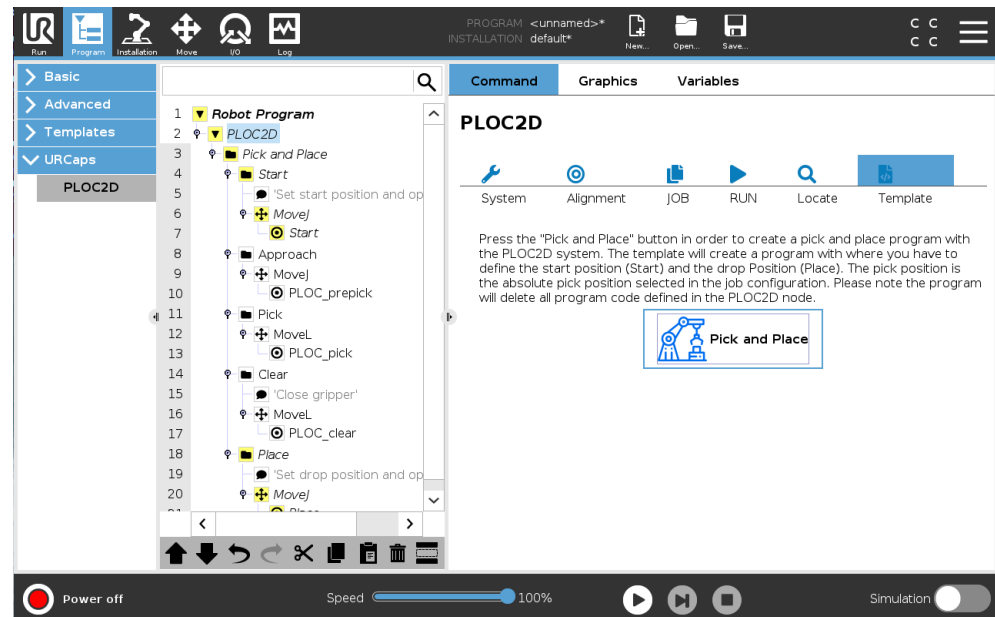

Figure 14: UR Robot user interface, template program
1. Click the **Pick and Place** button, see figure 14, page 17.